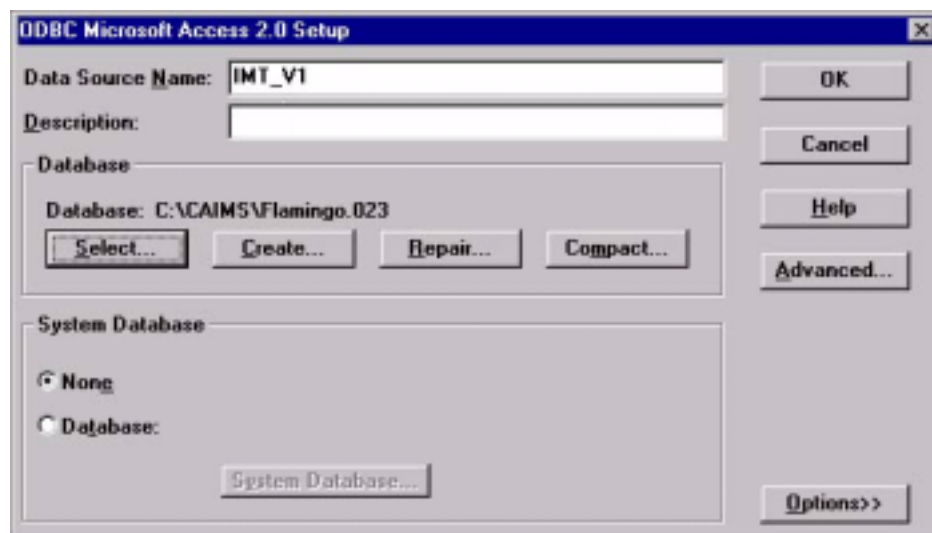

Figure 3
- In ODBC Microsoft Access 2.0 Setup window click on "Select..." within the dialog box. See Figure 3 below.